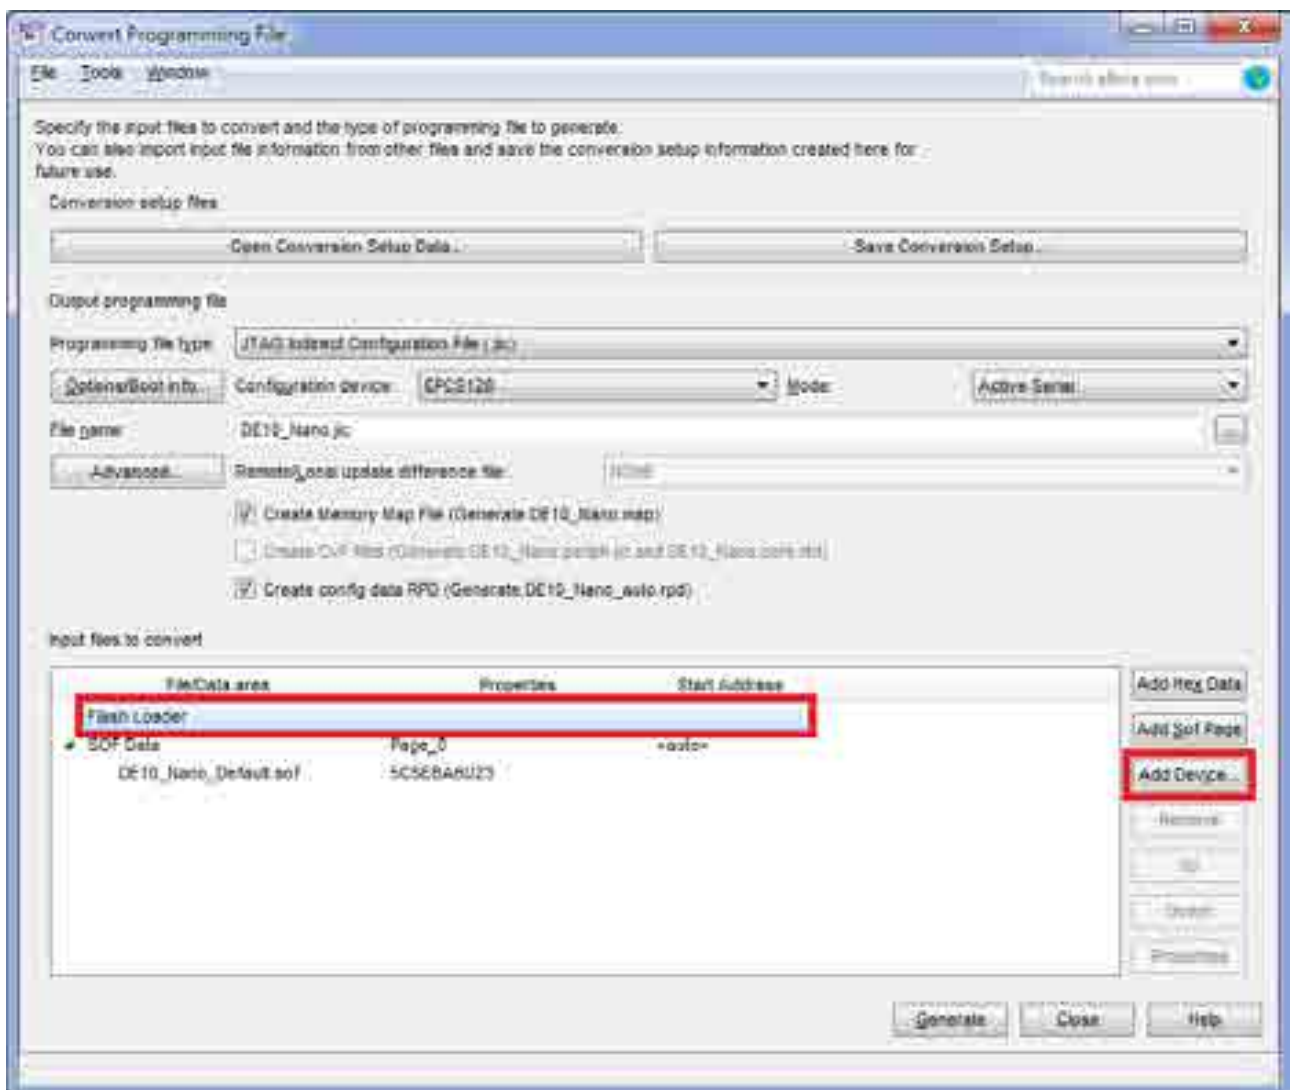

Figure 8-4
10. Click on the Flash Loader and click Add Device, as shown in **Figure 8-4**.